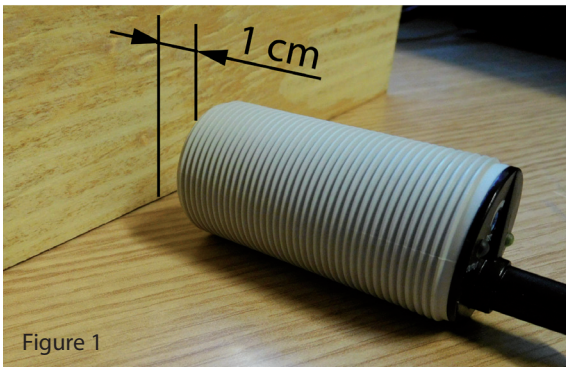

Figure 1
- ◆ Place a **wooden board** in front of the Probe (see figure 1) about 1 cm away from it.